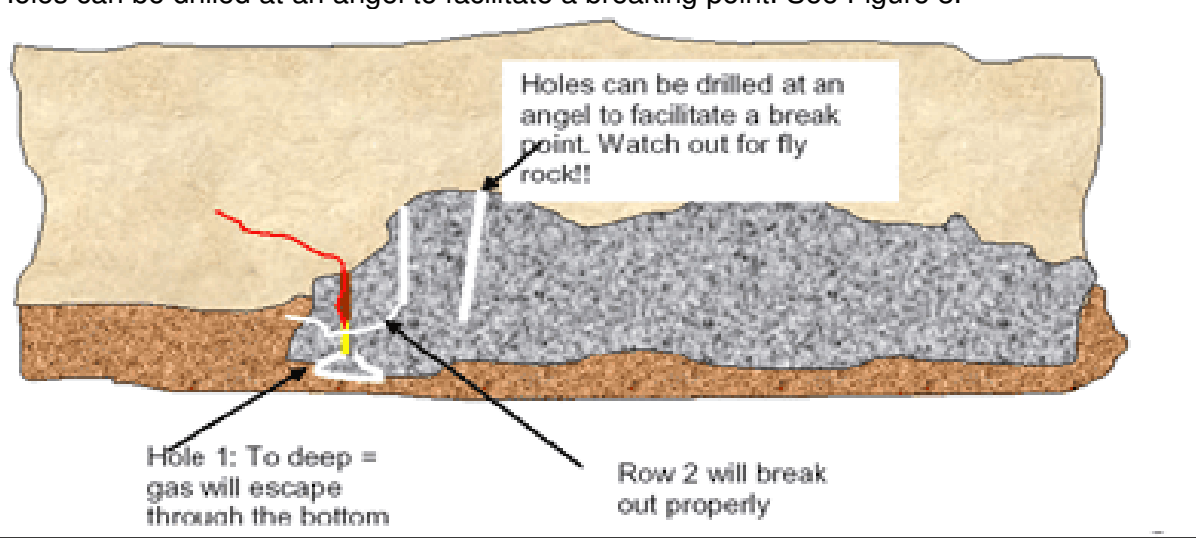

Fig. 8 Breaking of In Situ Rock
- Holes can be drilled at an angel to facilitate a breaking point. See Figure 8.